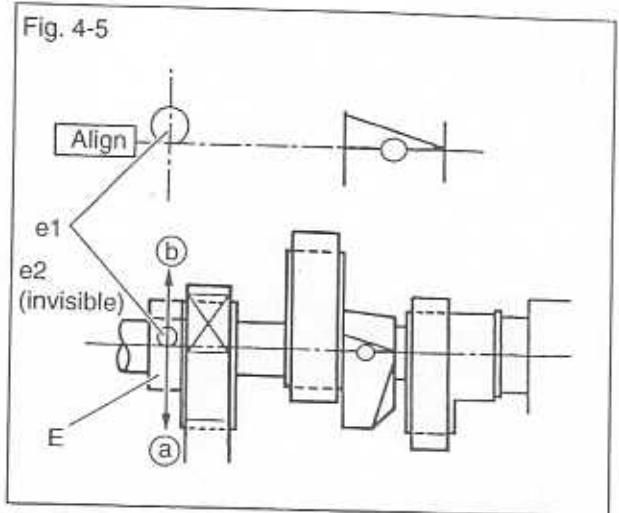

Fig. 4-6 Rise timing is too fast.
- If the rise timing of the upper looper is too fast as shown on Fig. 4-6, loosen the screw (e1) and turn the cam (E) slightly toward you (= direction (a) on Fig. 4-5)